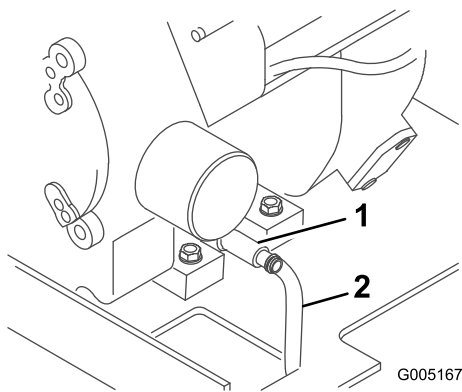

Figure 24
4. Place one end of a hose on the drain valve and the other end in a pan (Figure 24).
5. Open the drain valve by turning it counterclockwise, pulling out as you turn it (Figure 24).